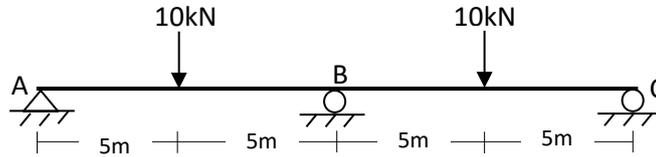

Fig.3
- 14 a) Determine the support reactions in the beam shown in Fig.3 using method of consistent deformation. (11)